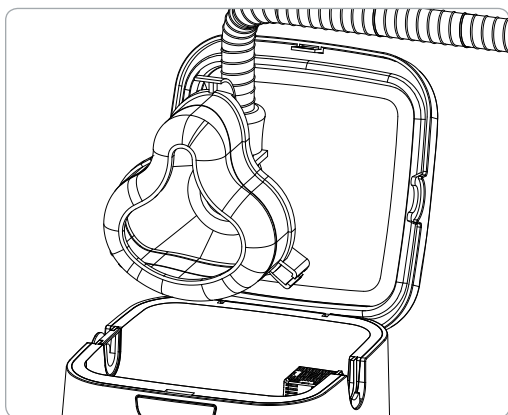

Figure 7. Put PAP mask into Disinfecting chamber
4. Insert your mask into the Disinfecting chamber, allowing its attached PAP hose to rest in the open hose slot, opposite the Removable hose slot plug (Figure 7).